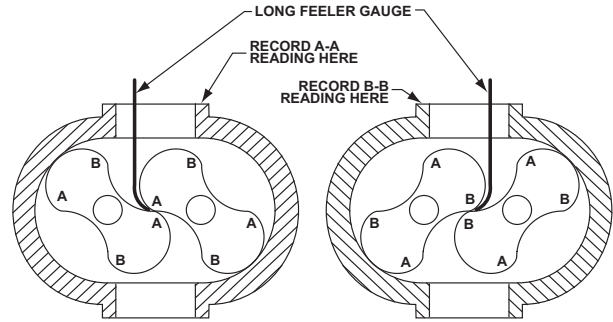

Figure 9-4 – Checking Rotor Interlobe Clearance
**EXAMPLE:** Referring to **Figure 9-4**, check the clearance at AA (right-hand reading) and BB (left-hand reading). If AA reading is 0.013 in. (0.32 mm) and BB reading is 0.007 in. (0.18 mm), by removing 0.006 in. (0.15 mm) shims, the readings will change one half of the amount removed or 0.003 in. (0.08 mm). AA should then read 0.010 in. (0.25 mm), and BB should read 0.010 in. (0.25 mm). The final readings should be within 0.002 in. (0.05 mm) of each other.